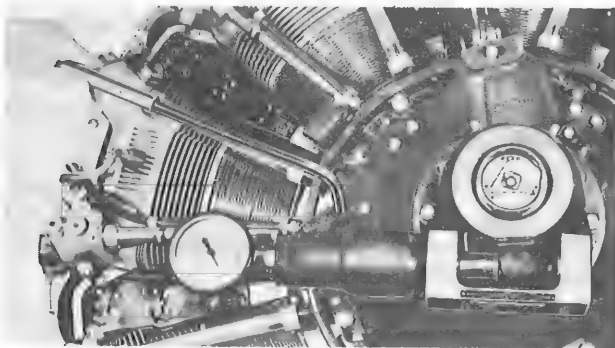

Figure 3-73. Tightening Thrust Bearing Nut
a. Assemble the thrust nut adapter to the housing. Slide the assembly over propeller shaft, engaging it with thrust bearing nut. (See figure 3-73.)